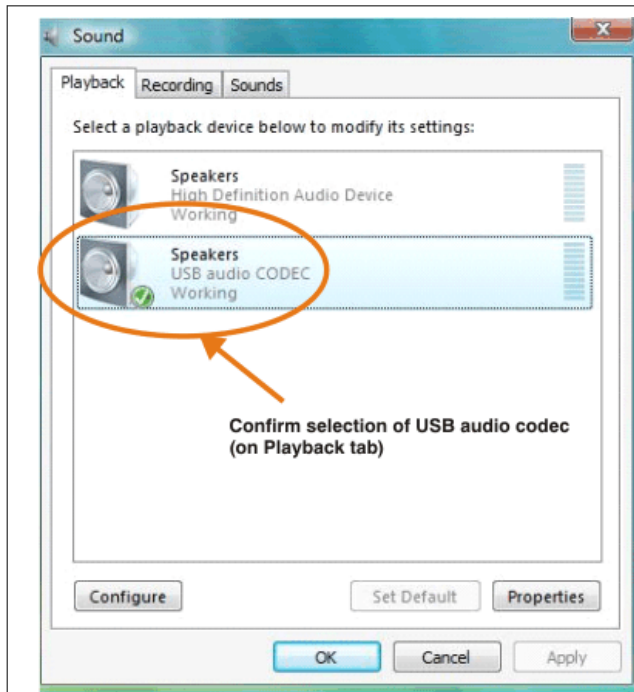

Figure 3-1. Sound—Playback Tab(Windows)
3. Select the playback tab and confirm the USB audio codec appearance as the default playback device, as shown in Figure 3-1.